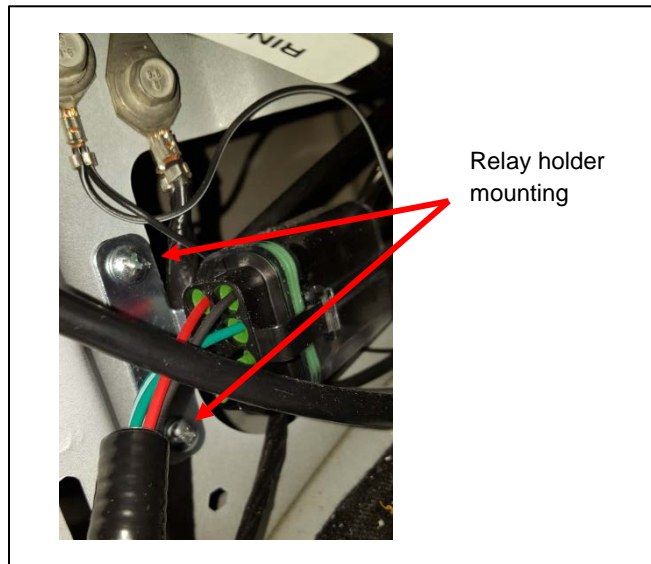

Figure 2, Location of relay holder mounting on GM kick-panel
4. Install the relay connector housing that will plug into in the kick panel. Use two self-tapping screws to mount the housing parallel to the edge of the opening (close to the firewall) as shown in **Figure 2**.